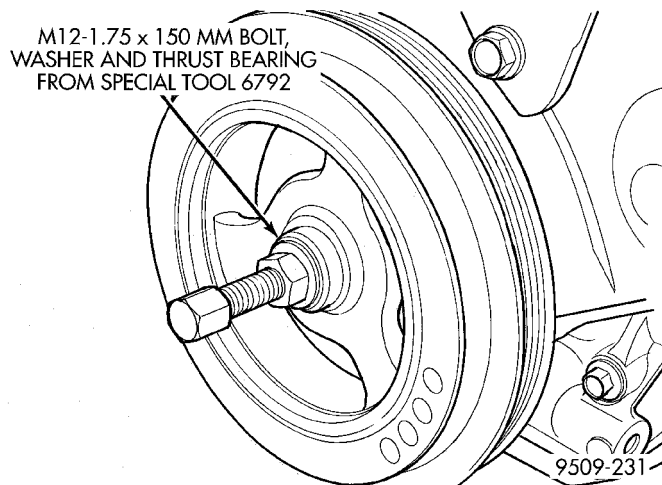

Fig. 88 Crankshaft Damper—Installation
(1) Install crankshaft damper using M12-1.75 x 150 mm bolt, washer, thrust bearing and nut from Special Tool 6792. Install crankshaft damper bolt and tighten to 142 N·m (105 ft. lbs.) (Fig. 88).
(2) Install accessory drive belts. Refer to Group 7, Cooling System Accessory Drive section for procedure.
(3) Raise vehicle on hoist and install right inner splash shield.